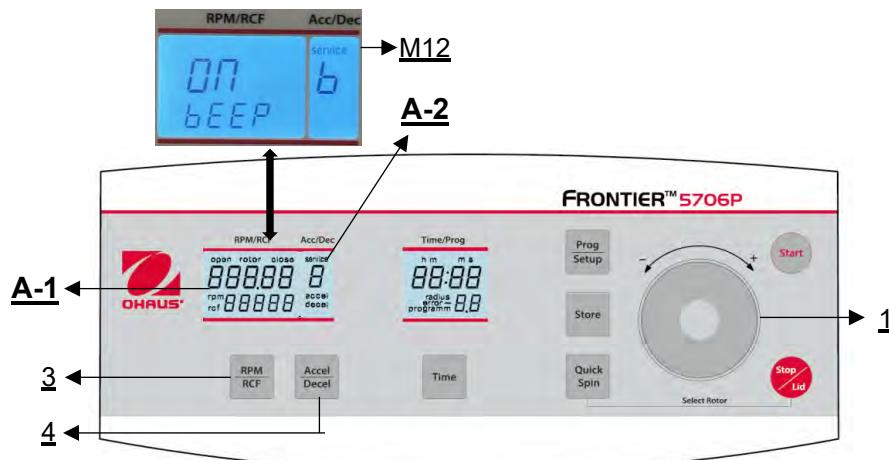

Figure 31
Proceed as described under point 4.1.1 to enter this program mode and then press the key **"Accel/Decel"** (4). In the display **"Acc/Dec"** (A-2) the word **"Service"** (M12) flashes. Now select the letter **"b"** with the touch wheel (1). As a result, in the display **"RPM | RCF"** (A-1), the word **"ON/BEEP"** appears. After pressing the key **"RPM | RCF"** (3), you can turn the keyboard sound (On) or (Off) with the touch wheel (1) (see **figure 31**).